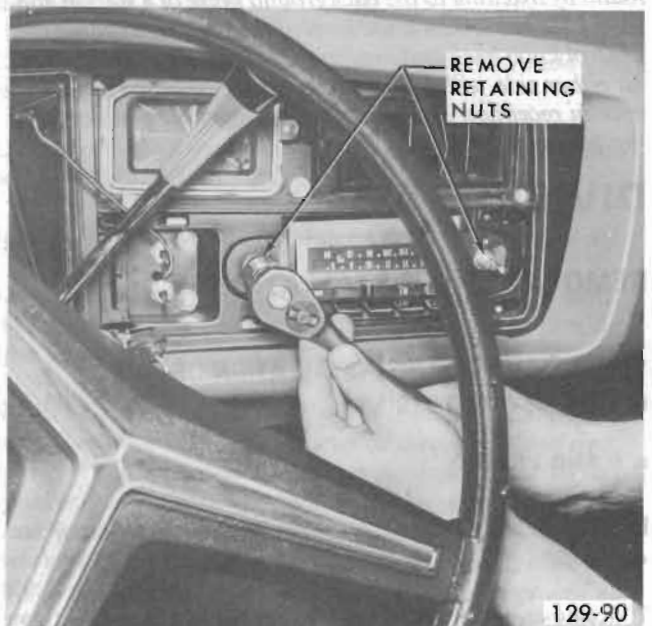

Figure 129-5
3. Remove the retaining nuts (2) from the threaded portion of the control shaft. See Figure 129-5.